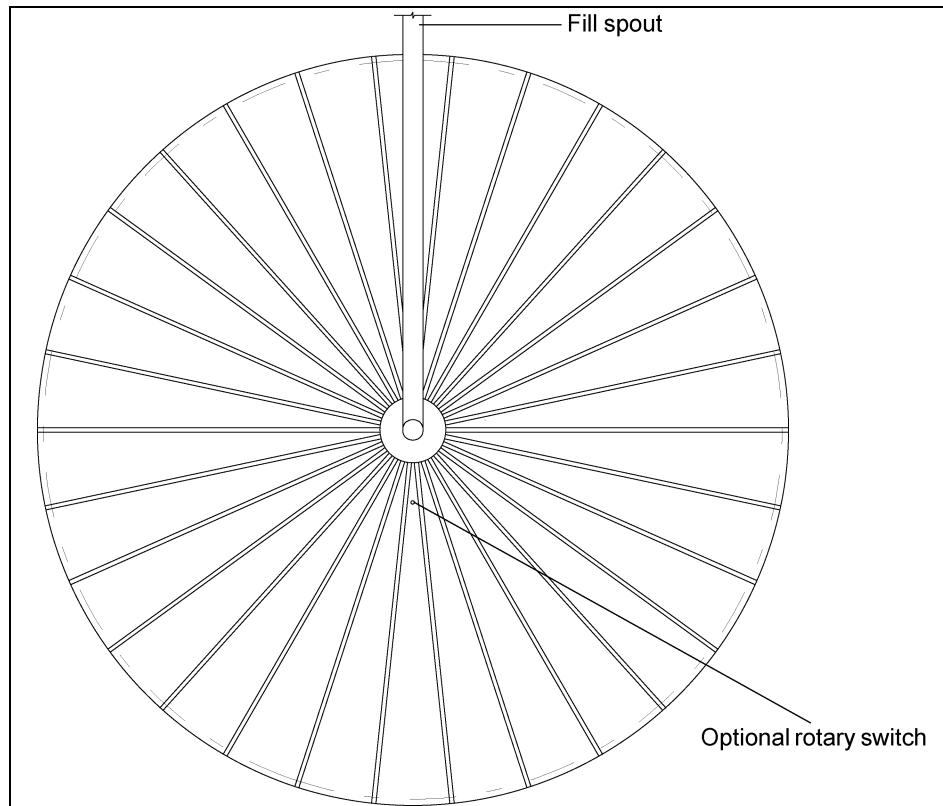

Figure 9W Overhead View of Optional Rotary Switch Locations
Drill 2" diameter holes through roof panels at locations as shown *in Figure 9W*. Use a mounting plate as a pattern and drill four (4) 3/8" holes through roof panels at each switch location so the plate can be bolted to the roof.
Drill 2" diameter holes through roof panels at locations as shown in Figure 9W on Page 72. Use a mounting plate as a pattern and drill four (4) 3/8" holes through roof panels at each switch location so the plate can be bolted to the roof.